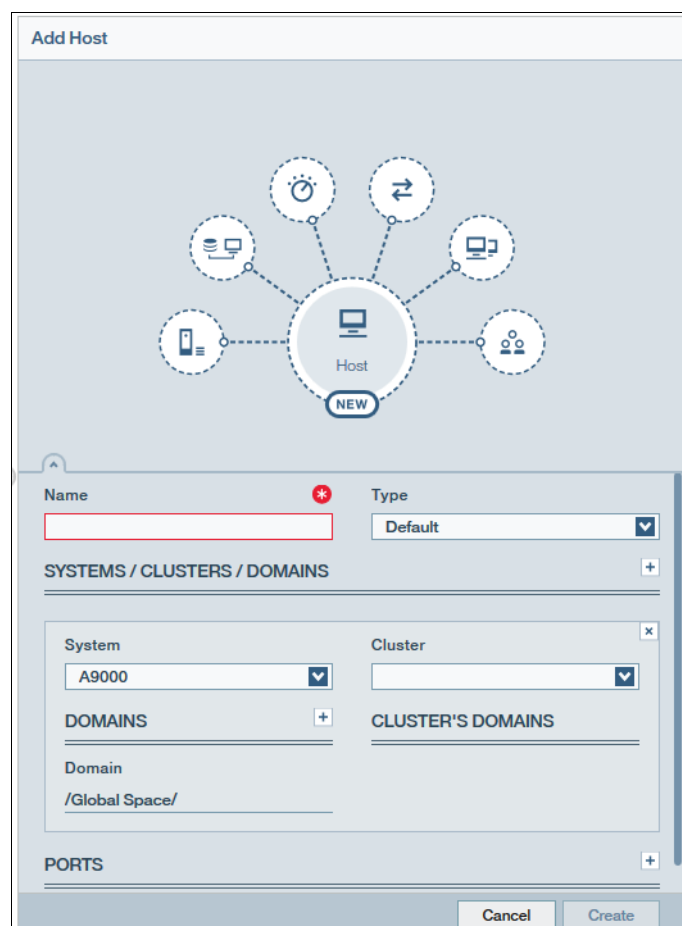

Figure 2-44 Add Host details
2. The new Host view is displayed. The Add Host setting window opens (see Figure 2-44) where you provide information.
- Select whether you want an iSCSI or FC connection. Host access to LUNs is granted depending on the host adapter ID. For an FC connection, the host adapter ID is the FC HBA WWPN. For an iSCSI connection, the host adapter ID is the host IQN. To add a WWPN or an IQN to a host definition, click the plus sign (+) icon to the right of the PORTS heading (see Figure 2-44 on page 87).